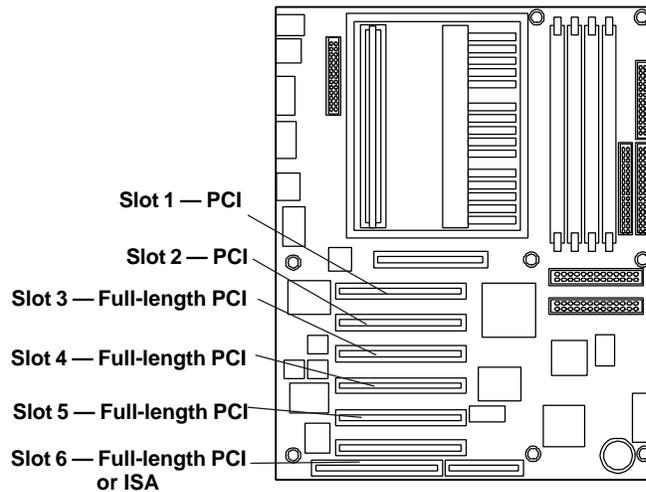

Figure 6-1. Accessory Slots
The HP NetServer E 60 includes six PCI slots and one ISA slot that is shared with PCI slot 6. PCI slots 3-6 have a slot guide for full-sized boards (as shown in Figure 6-1).
6. Identify the accessory slot number to be used. Note that Slot 6 (closest to the edge) is a shared slot for ISA and PCI. This means that you may only use one of these slots at a time (see Figure 6-1).